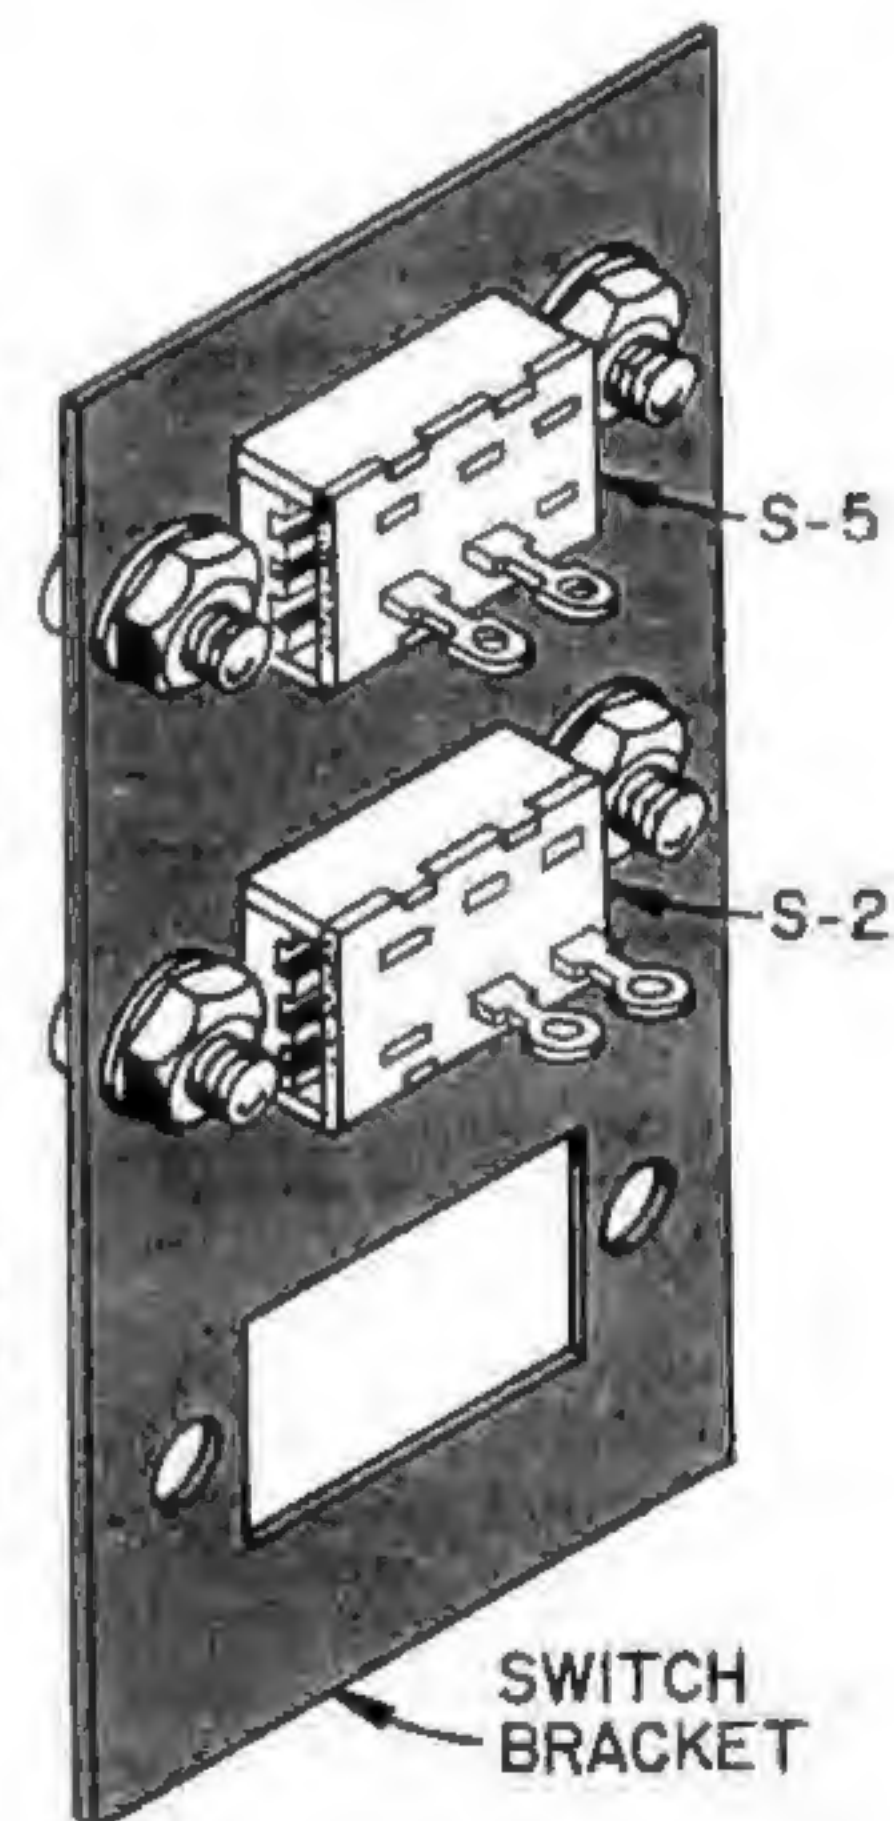

FIGURE 3
SEE FIGURE 3.
- ✓ S-5, the red-button slide switch. Insert the body of S-5 in the top hole, so the end without a terminal is positioned as shown in Figure 3. Fasten with two 4-40 screws, lockwashers and nuts.